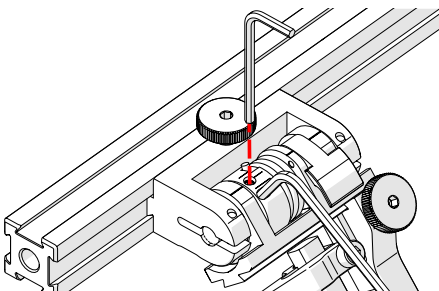

Fig. 164 - Insert hex tools
4. Place the 2 mm hex wrench into the force adjustment screw (Fig. 164).